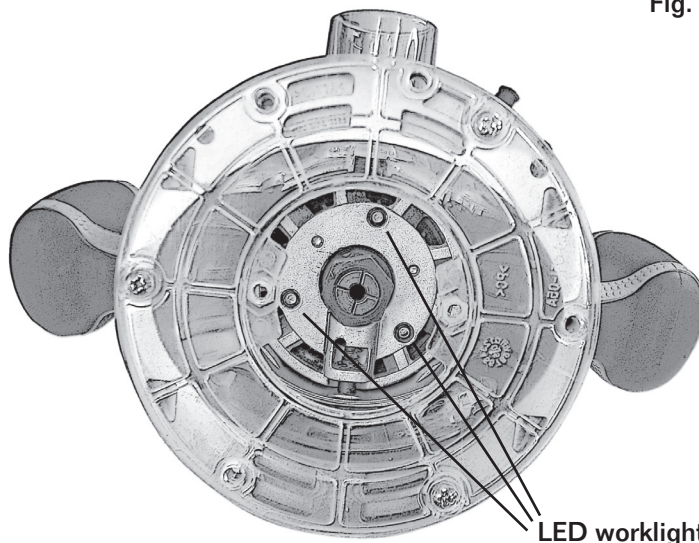

Fig. 5
17. LED worklight. When the router is plugged in and the ON/OFF switch is in the ON position, the LED worklight illuminates the milling area (see Fig. 5).
To install the cutter (see Fig.5)